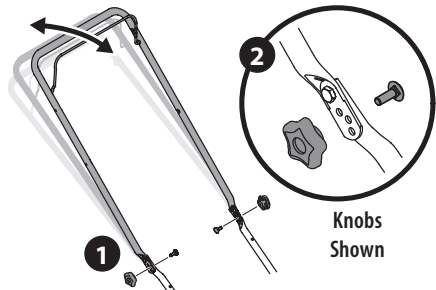

Figure 17
1. Remove two knobs or wing nuts and carriage bolts from handle (Figure 17).
2. Position the handle in one of the three positions that is most comfortable. See inset, Figure 17.